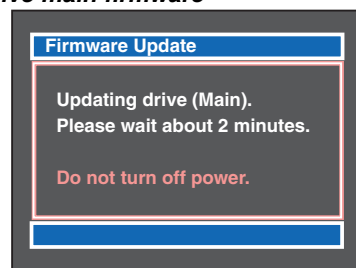

Fig. 1-2c
- Disc drive main firmware (Fig. 1-2c)